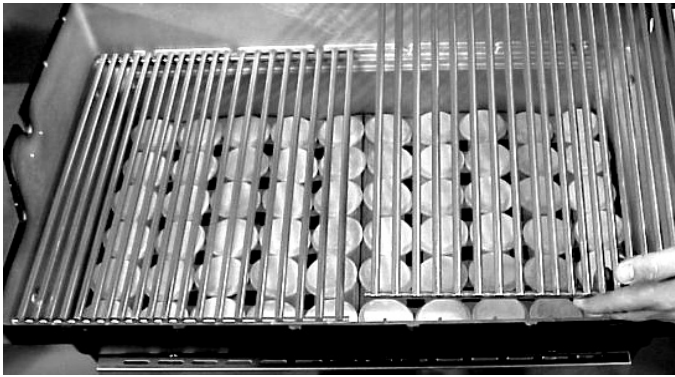

Figure 12 Placement of Cooking Grids
3. Place cooking grids in casting, "VARI GRID" cooking grids can be placed with close tines together in the middle or separated to the outside of the casting whichever better suits your grilling needs (see Fig. 12).